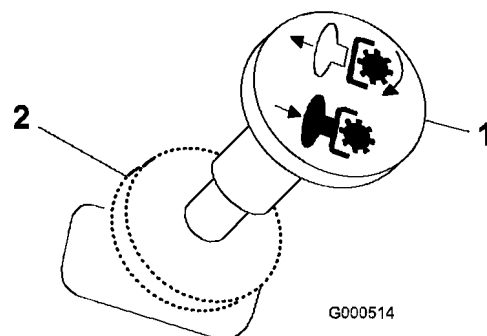

Figure 10
3. Move the PTO (power take off) switch to the Off position (Figure 10).
1. Push the PTO to the off position (Figure 10).